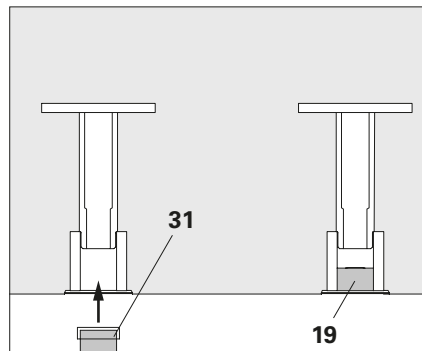
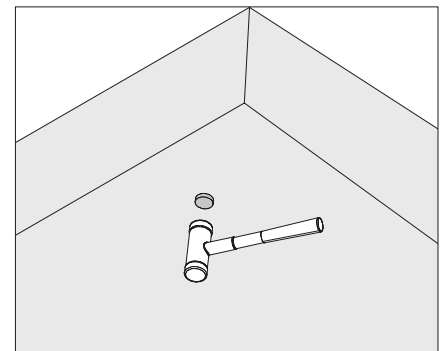

Fig. A5.14
Fig. A5.14a
2. Mix repoxal glue (31) according to the manufacturer information.
3. Dip the concrete plug Ø32 mm (19b) for the Anchor Posit. Stud M24 ga or Ø40 mm (19a) for the threaded cone M24 into the repoxal glue (31) on one side.
4. Tap the concrete plug (19) flush into the tie hole with a rubber mallet.
5. Remove adhesive residue with a spatula. (Fig. A5.14 + Fig. A5.14a)